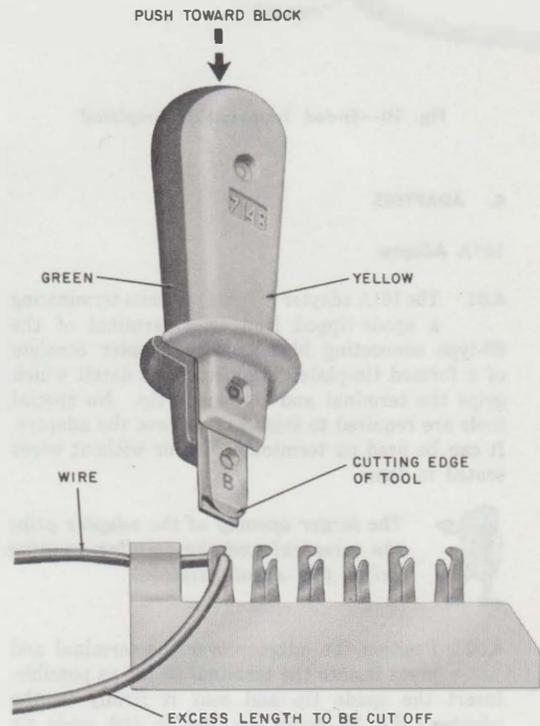

Fig. 9—Preparation for Making Ended Termination
**3.07** To make an ended termination (Fig. 9 and 10) using the 714B or D impact tool, observe the following procedure.
- (a) Perform Steps (1), (2), and (3) of 3.05.